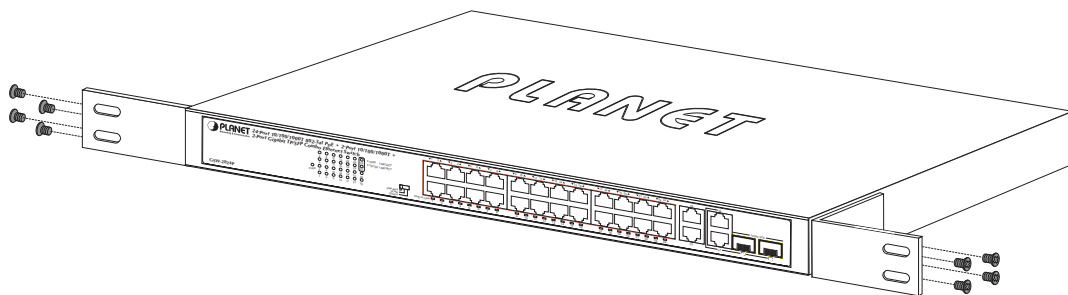

Figure 5-1: Attaching the Brackets to the 802.3at PoE+ Switch.
Step 2: Attach a rack-mount bracket to each side of the 802.3at PoE+ Switch with supplied screws attached to the package. Figure 5-1 shows how to attach brackets to one side of the 802.3at PoE+ Switch.